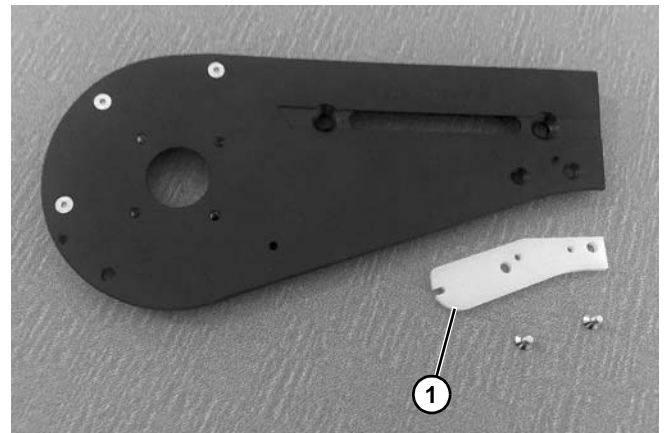

Figure 125
3. Remove drive return guide (Figure 125, item 1).